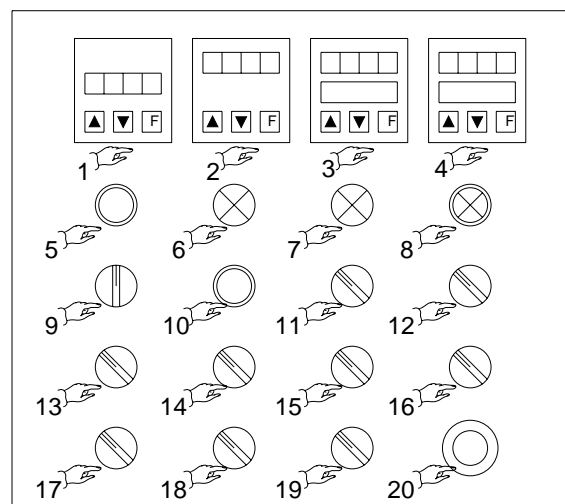

Fig. 5.17
Work the jog switch (*Pos. 9, Fig. 5.17*) to position the suction cups at their maximum height.
starting production using the switch (*Pos. 8, Fig. 5.17*).
Make sure that the lid feed station is switched off (*Pos. 15, Fig. 5.17*) with the suction cups in the raised position.
A control (*Pos. 4, Fig. 5.17*) on the operator control panel may be used to adjust the temperature of the sealing head (press “F” and then press + to increase temperature or – to decrease it).
- Adjust temperature of sealing head (optional). Check that the emergency push button (*Pos. 20, Fig. 5.17*) is released. Turn the main switch to the ON position and set the desired sealing head temperature using the digital thermostat (*Pos. 4, Fig. 5.17*).
- Set the dosing time using the appropriate control (*Pos. 2, Fig. 5.17*).
- Set decorating time (optional) using the appropriate control (*Pos. 3, Fig. 5.17*).
- Set the desired production using the appropriate control (*Pos. 2, Fig. 5.17*).